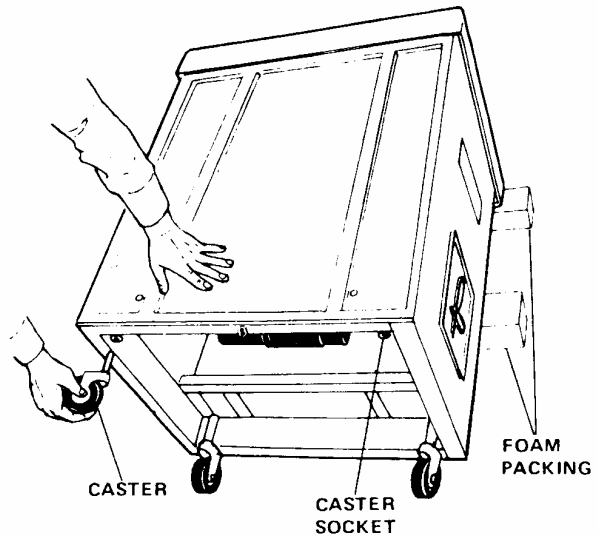

Figure 2-6. Installing Casters (Model BB2016)
1. **MODELS BB914 and BB2016.** Lay unit on its side on some of the foam packaging (to prevent scratching the finish) and install casters to bottom of unit. (See fig. 2-6.)